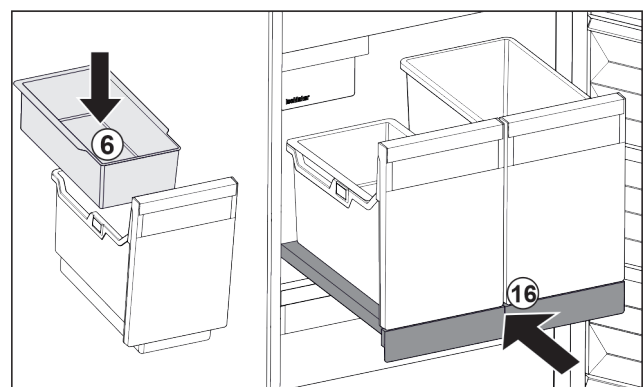

Fig. 103
- ▶ Insert hang-on tray Fig. 103 (6) for ice cubes.
- ▶ Slide in the pull-out board with container (IceTower). Fig. 103 (16)